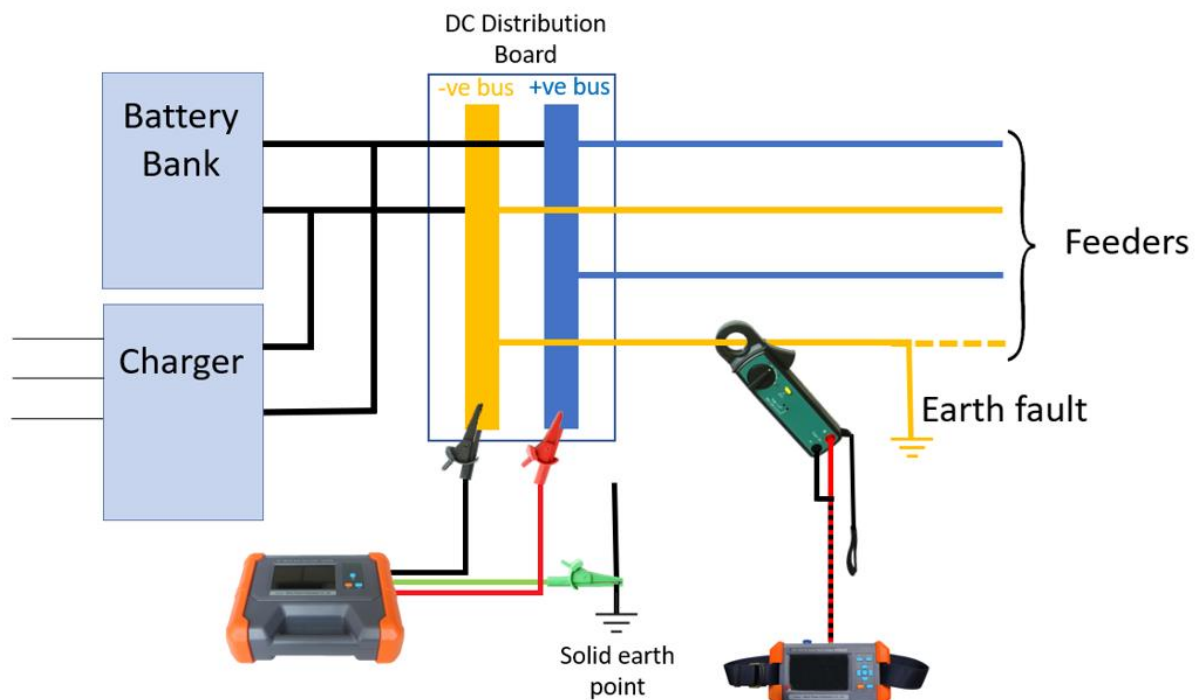
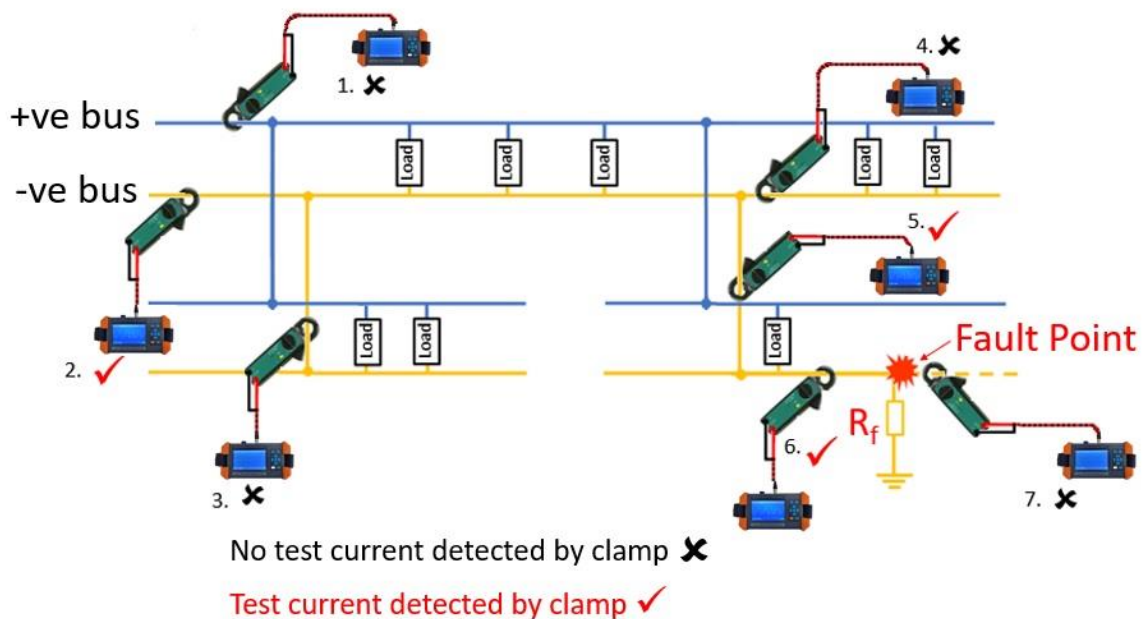

Figure 4.1 Fault finding
Figure 4.2 Fault pinpointing process for single earth fault
Clip the clamp to the feeder under investigation (Figure 4.1), in this idealised case the transmitter has indicated that the fault is on the negative busbar.
- i. The single point earth fault pinpointing process is shown in Figure 4.2. The Transmitter and Receiver are connected as shown in Figure 4.1 and in this case the Clamp and Receiver assembly is represented as a loop around the feeder(s).